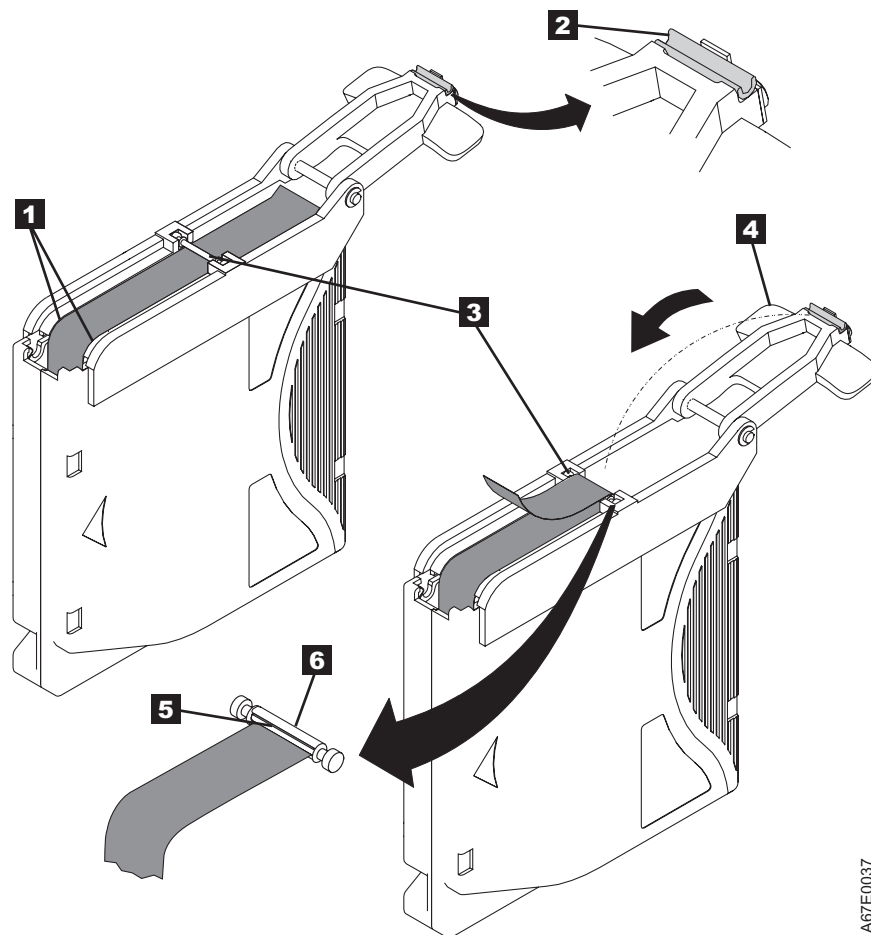

Figure 127. Attaching the leader pin to the tape
7. Position the tape in the alignment groove of the leader pin attach tool (see **1** in Figure 127 on page 157).
10. Fold the tape over the leader pin and hold it with your fingers (see Figure 127 on page 157).